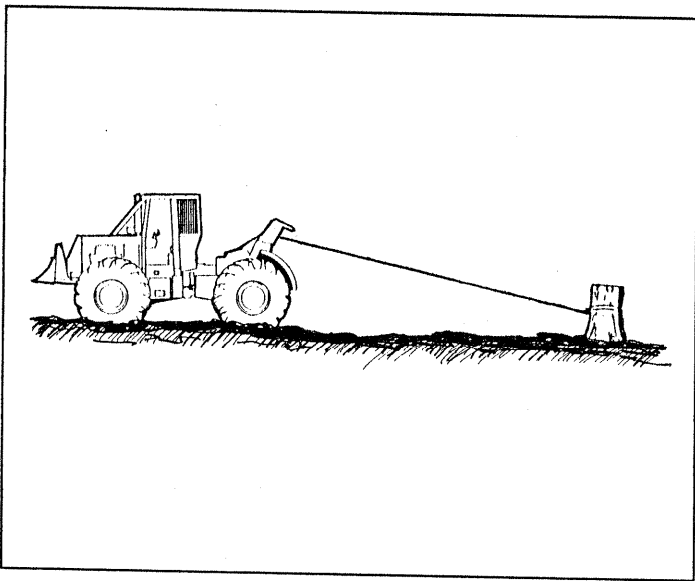

Fig. 7 Moving a Disabled Vehicle (Step A)
A. A skidder often travels in areas where traction conditions are bad. A skidder equipped with a winch can be used to remove itself from mud or other areas where it cannot move using only the drive wheels or tracks. See Fig. 7. Use the following procedure: